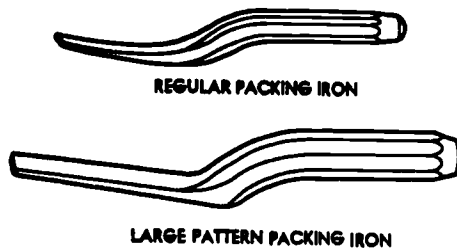

Fig 1-76. Packing irons.
- **Packing irons:** These tools (fig 1-76) are used to tamp the oakum into the hub when making a join with cast iron soil pipe. These tools are sometimes referred to as yarning irons.